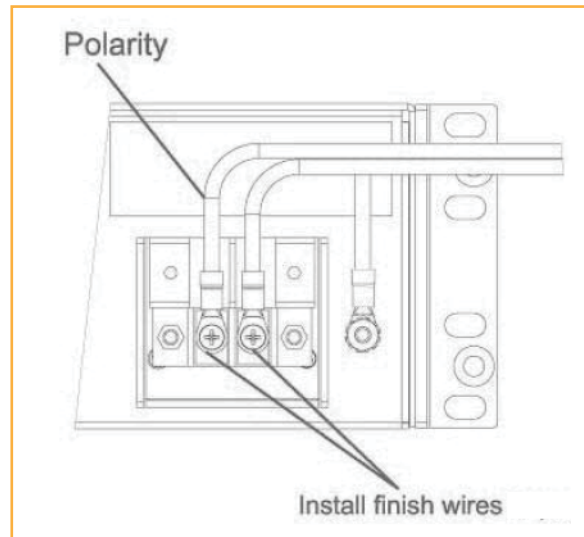

Figure 33. Wire Polarity
- 3 Install the finish wires using the proper polarity and secure them with #8-32 pan head screws previously removed as illustrated in Figure 33.